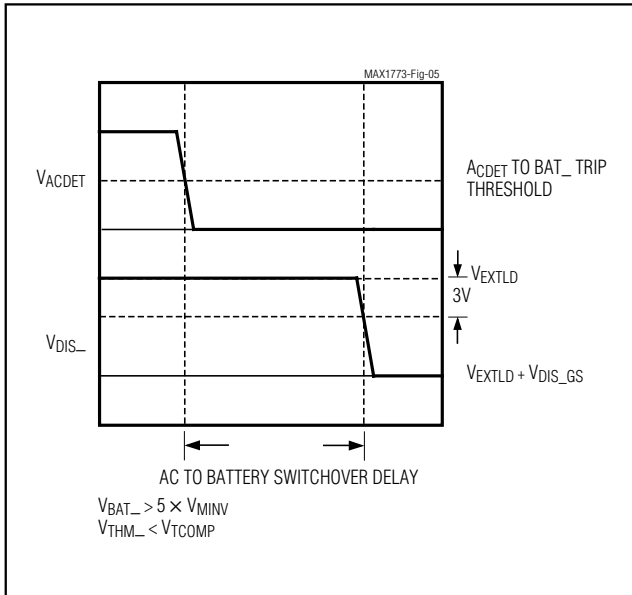

Figure 5. AC to Battery Switchover Delay
**Note 9:** AC to Battery Switchover Delay begins when VACDET falls below its threshold and ends when both VCOM\_ and VDIS\_ of the battery being switched to have fallen 3V below their sources (Figure 5).